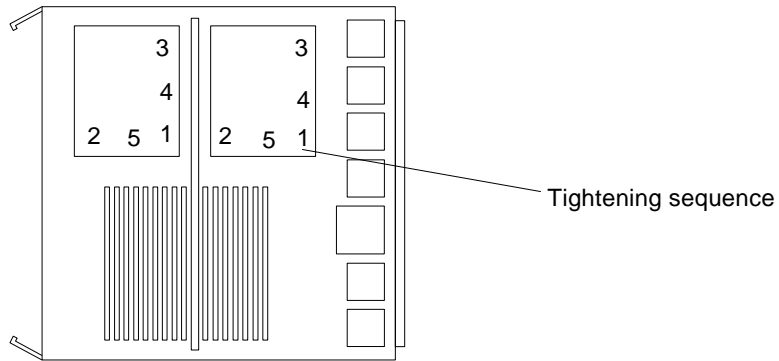

FIGURE 3-8 CPU Module Torque Tightening Sequence
- a. Tighten each screw in the sequence shown in figure 3-8 until it reaches the metal plate.**
b. Tighten each screw an additional 1/2 turn in the sequence shown (FIGURE 3-8).